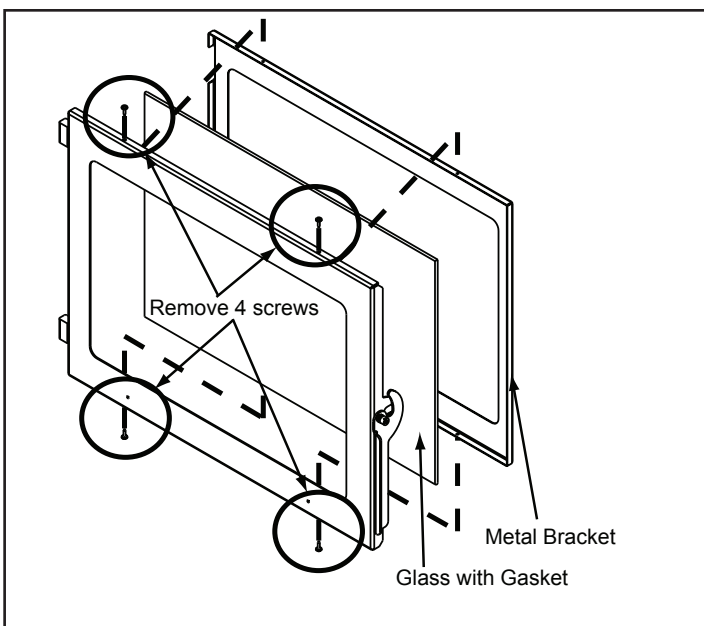

Figure 28.1
- Using a Phillips head screw driver, remove 4 screws, 2 on the top and 2 on the bottom. Remove metal bracket and then remove the glass. **Figure 28.1.**